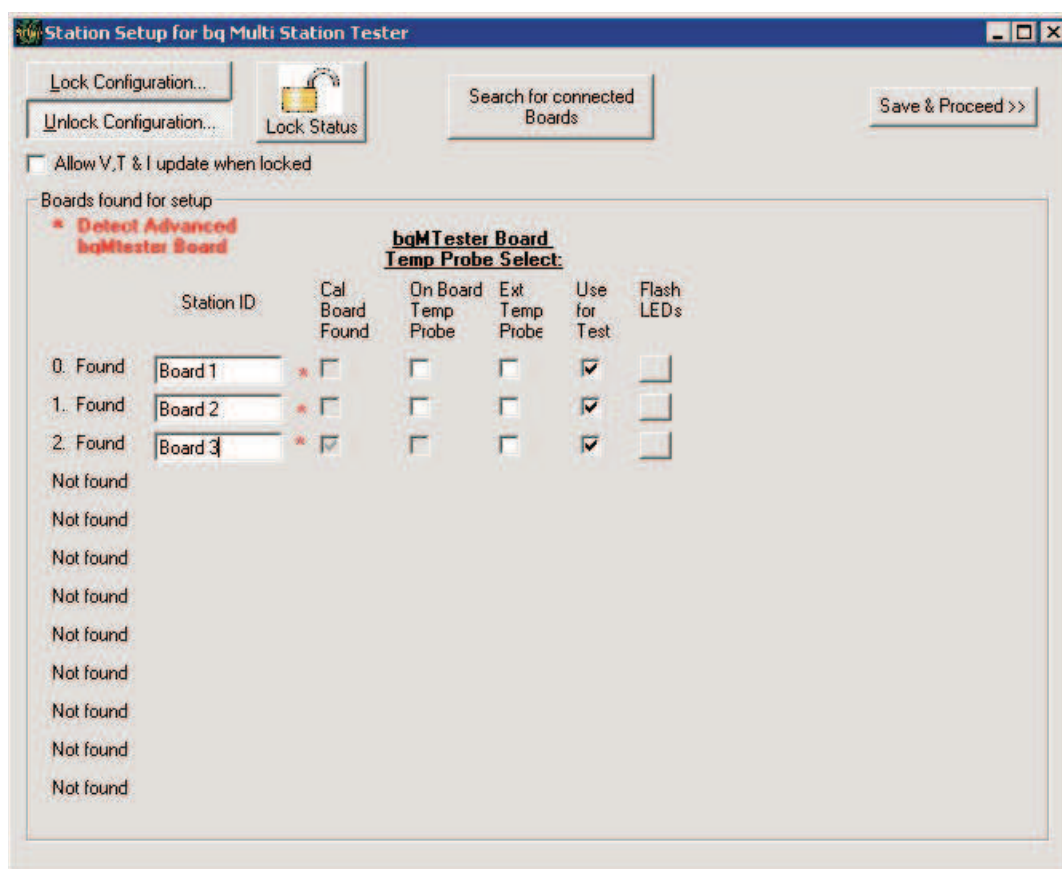

Figure 4. Station Setup Program
2. Any on-board or external temperature probe that is selected at station setup stage (the **Use for Test** checkbox must be checked for that station, see Figure 4) will be available in the drop-down box menu list.